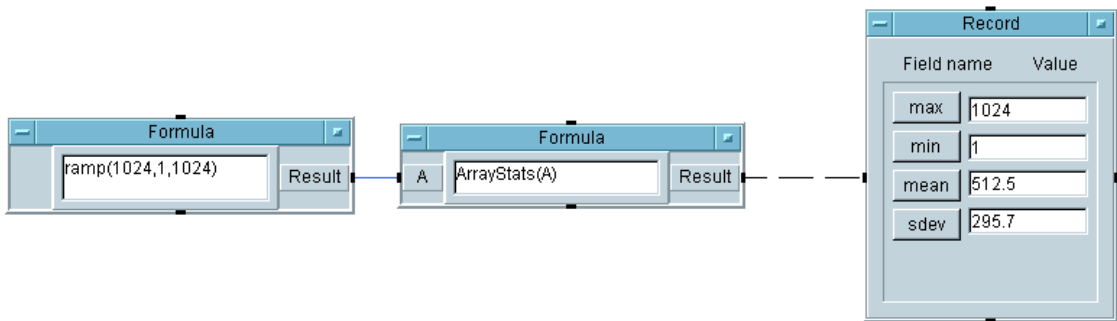

Figure 215 Calling the ArrayStats User Function
- 2 Run the program. It should look like Figure 215.
- 1 In the same example used in Figure 215, double-click the Formula object ArrayStats to delete the object. (You could also select the object menu and select Cut.)